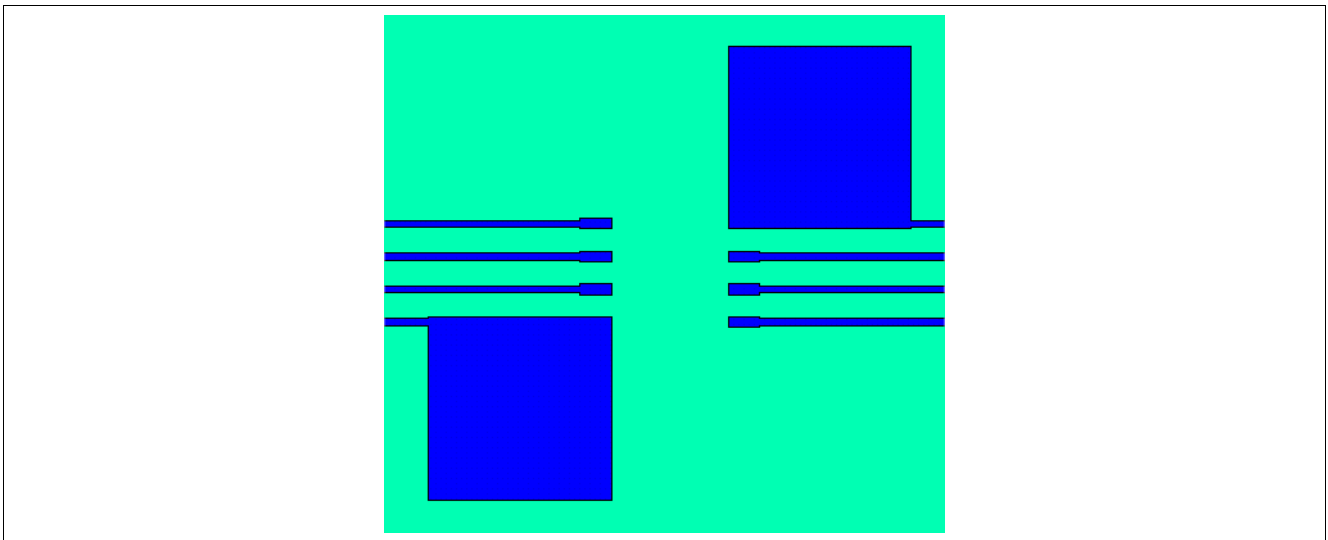

Figure 10 Reference Layout for Thermal Data (Copper thickness 35 µm)
2) See Figure 10 for reference layouts for these thermal data. Thermal performance may change significantly with layout and heat dissipation of components in close proximity.
The PCB layout shown in **Figure 10** represents the reference layout used for the thermal characterisation. Pin 4 (GND1) and pin 8 (GND2) require each a ground plane of 100 mm² for achieving maximum power dissipation. The Separate output variant for MOSFET is conceived to dissipate most of the heat generated through these pins.